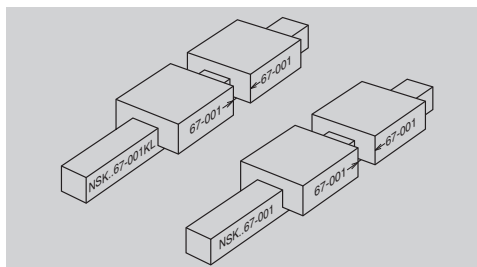

Fig. 9.30 When two rails have different reference number
- When two or more rails of different reference number are used in a single set, the rails and slides have the same serial number. In this case, when slides are removed from the rail, it is unclear which rail each slide was previously installed on. When removing ball slides from the rail for an unavoidable reason (Fig. 9.30), sufficient precaution is required.